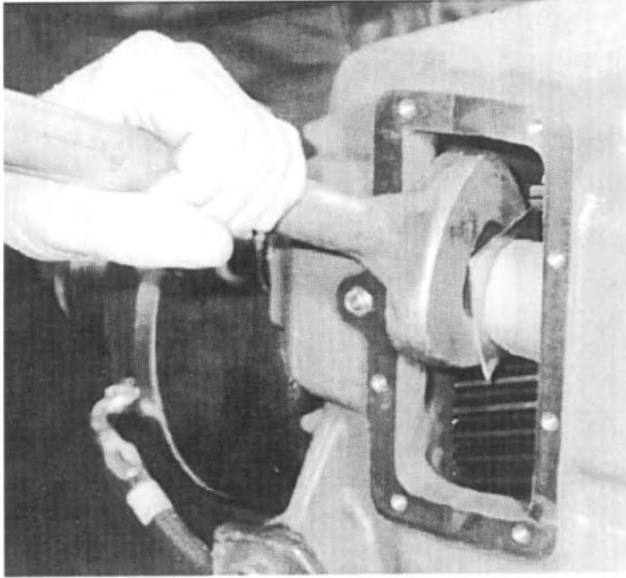

Fig. 101
39. Tighten the lock nut against the high-low shift fork. See Fig. 101.